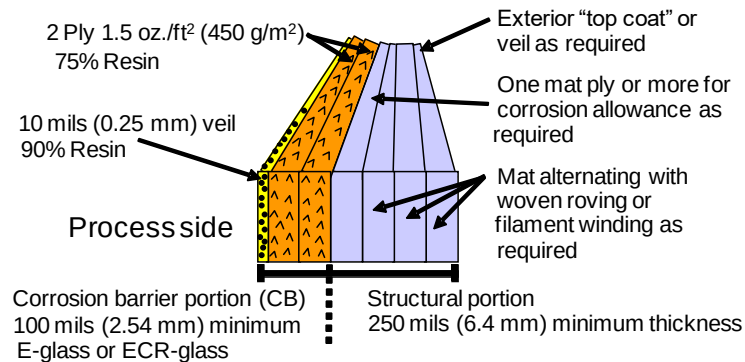

Figure 1: Typical FRP Laminate Construction
The veil layer of the corrosion barrier consists of a resin-rich layer with 90 - 95% resin and 5 - 10% reinforcement that is approximately 0.025 - 0.050 mm (10 - 20 mils) thick, Figure 1. The reinforcement is in the form of a surfacing veil composed of C- or E-CR glass, a synthetic fabric, or carbon fiber. Two plies of surfacing veil can be used for more severely corrosive environments. Since the veil layer is the first line of defense against the chemical environment, the proper veil selection is critical. C-glass veil is the veil of choice for most acidic environments such as sulfuric acid, citric acid, and acetic acid. In hydrochloric acid, two layers of C-glass veil are recommended for maximum corrosion resistance. Once exception is hydrofluoric acid (HF) where a synthetic veil is recommended. In HF, the fluoride attacks C-glass veil so synthetic veil is recommended to prevent degradation of the veil surface and to provide a long service life. In caustic environments, such as sodium hydroxide, a synthetic veil has been shown to provide better resistance than C-glass veil. Certainly, veil selection is critical in designing and fabricating FRP equipment that will provide a long service life.